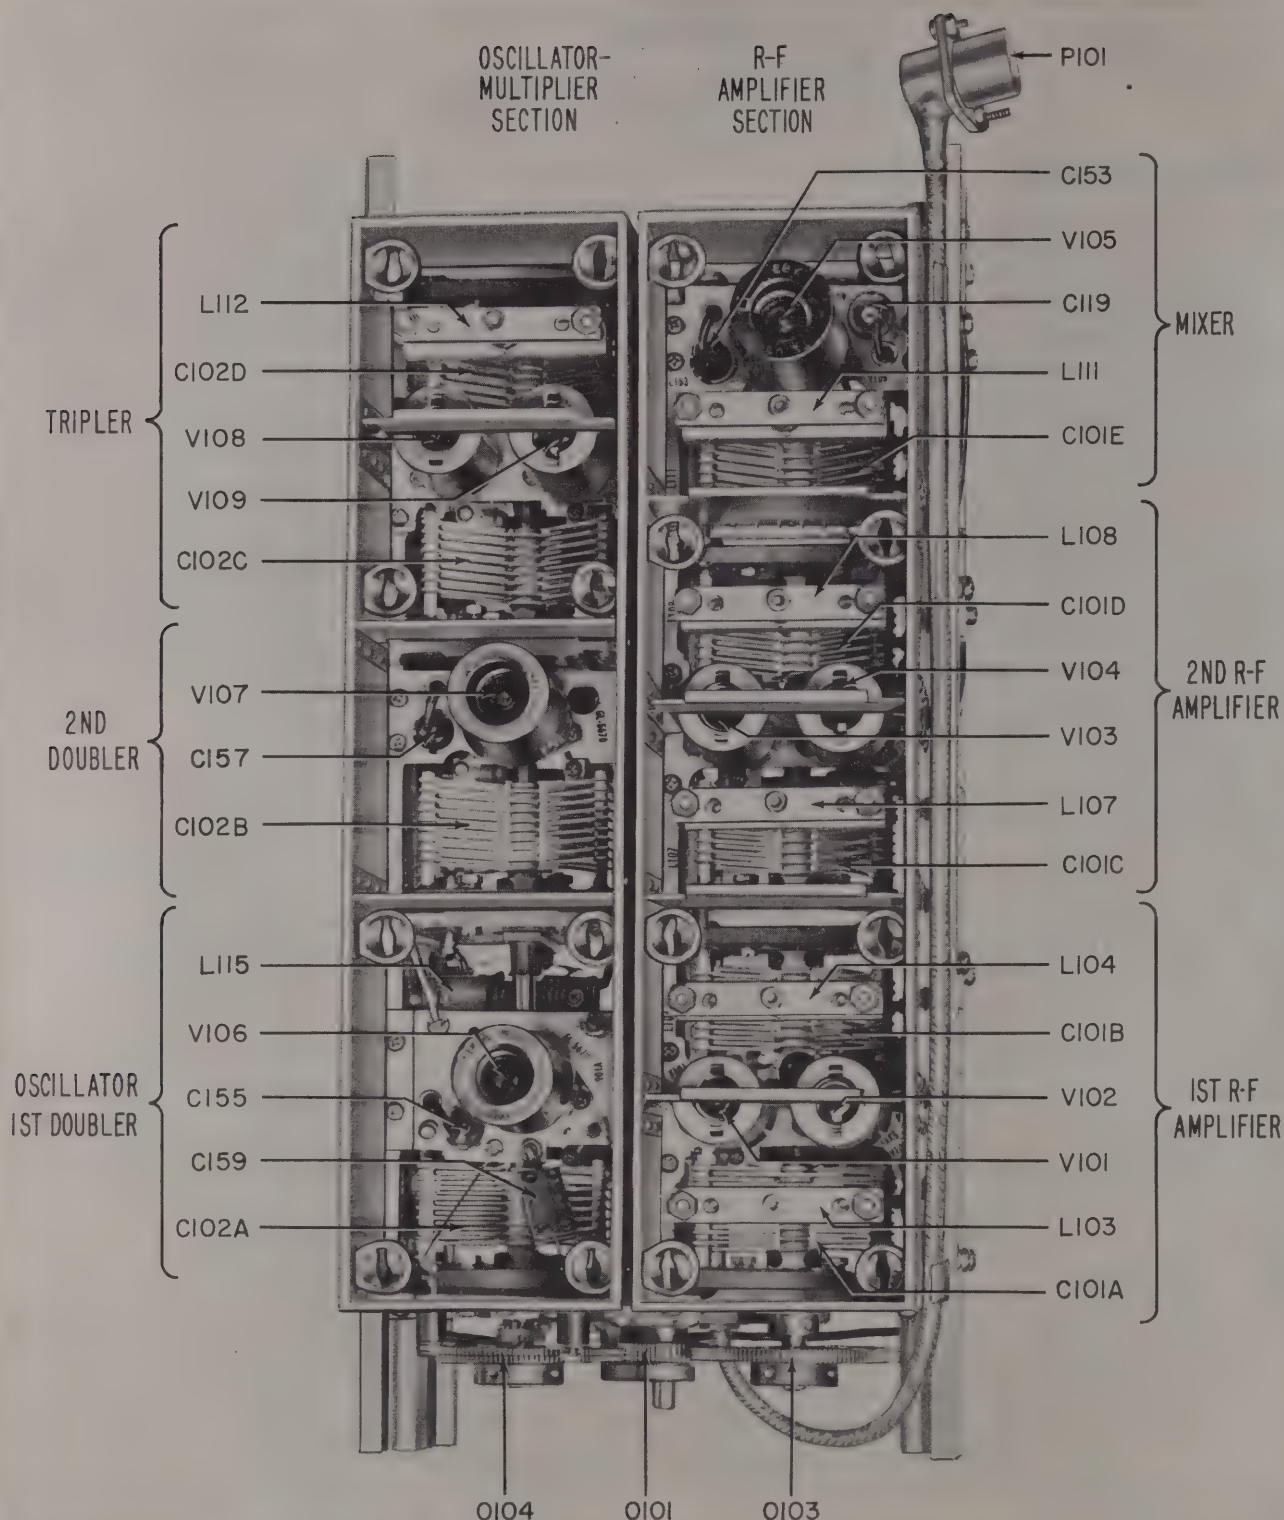

Figure 2-2. Preselector Viewed from Left Side of Unit, Shielding Covers Removed
a. PRESELECTOR. (See figures 2-2 and 2-3.)
(1) R-F AMPLIFIER SECTION.
Tuning of the various stages is accomplished by capacitor C102, which is a four-section capacitor, each section being of the split-stator type. The use of split-stator capacitors in the balanced tank circuits permits the use of a grounded rotor to reduce inter-sectional capacitance. Rotor grounding is accomplished by wiping contacts. Since no appreciable r-f currents flow through these contacts, the inherent noise associated with wiping contacts is not present. Capacitor C102 is geared to the five-section capacitor, C101, to provide single-control tuning of the receiver; see figures 2-2 and 2-3. The trimmer inductance of the tripler stage and the trimmer capacitors utilized in all the stages of the oscillator-multiplier section are integral parts of the tuning capacitor, similar to those described previously in subparagraph 2a(1)(b), this section.